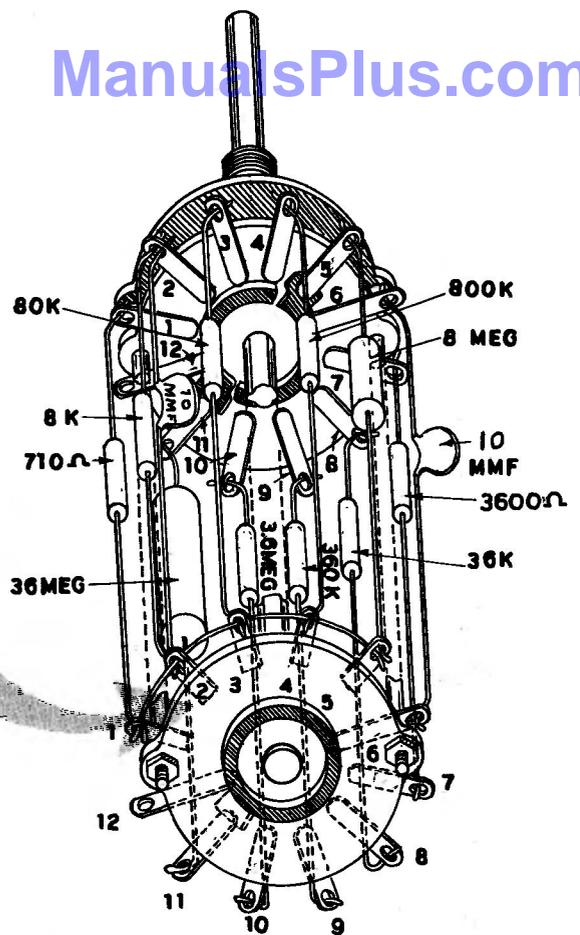

Figure 2
- ( ) Observe the two deck ceramic switch carefully. Note the position of decks "A" and "B" and the numbering system for their terminals. See Figure 2.
- ( ) Using bare wire, connect the five dummy (not connected to the rotor) lugs, B1, B2, B3, B4 and B5 together (NS).
- ( ) Connect the  $8K \pm 1\%$  resistor between A2 (NS) and B2 (NS).
- ( ) Connect the 8 megohm  $\pm 1\%$  resistor between A5 (S-1) and B5 (NS).